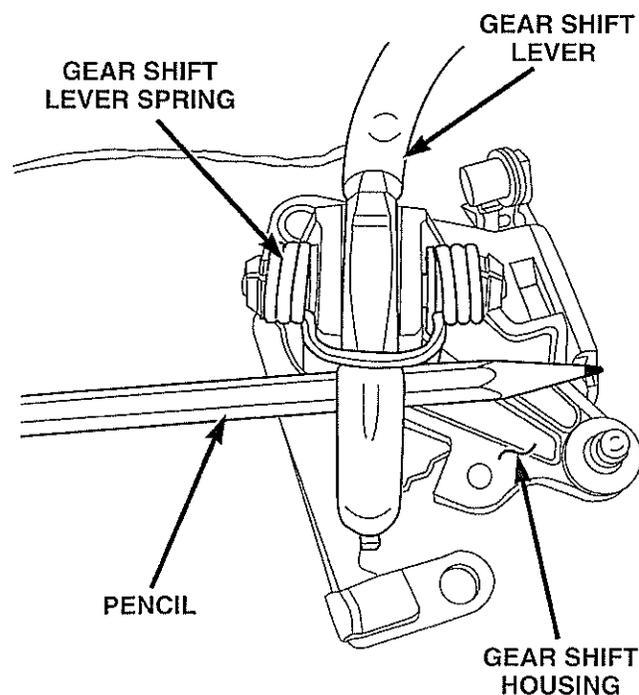

Figure 2
14. Pull on the gear shift lever to compress the gear shift lever spring and temporarily insert a pencil (or equivalent) between the gear shift lever and gear shift housing to release any spring tension on the gear shift blocker bracket (Figure 2).